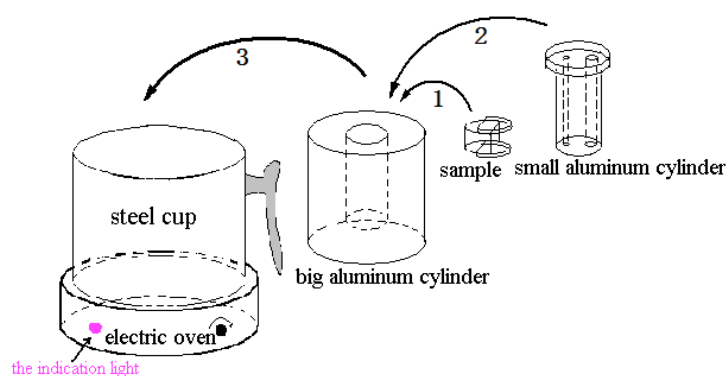

Figure 2
2. Heater: The heater used in this experiment is schematically shown in Fig. 2. A knob on the right of the electric oven is used to adjust the temperature of the electric oven. A big aluminum cylinder was bored a co-axis pipe-like sample cavity in the middle of it,. The experimental sample can be put at the bottom of this cavity. Besides, there is a small aluminum cylinder, through which two tube-like holes of different radius were bored. The small hole allows light to pass through, while a probe of a thermometer can be inserted in the big hole. If you want to heat the sample, you should first slip the sample carefully into the cavity of the big aluminum cylinder before you heat it (in doing so, the big aluminum cylinder should be inclined somewhat to avoid cracking the sample). Next, put the small aluminum cylinder onto the sample already located in the cavity. Then, put the whole big aluminum cylinder including the sample and the small cylinder inside into the steel cup on the electric oven. (For heating, you should not put any water in the steel cup, and you shouldn't take away the steel cup but put the whole aluminum cylinder directly on the oven, either.)